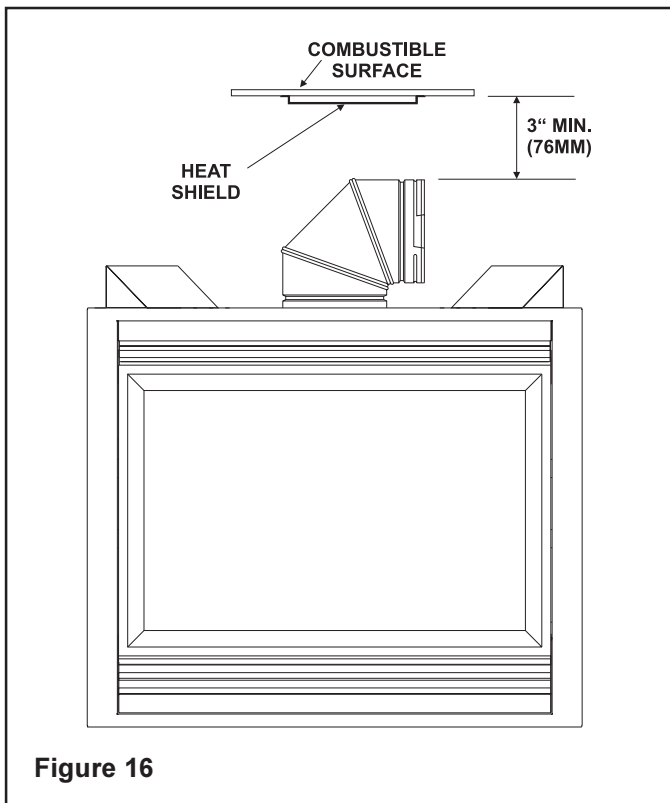

Figure 16
1. Determine if the heat shield is required. Do so by measuring the vertical distance between the top horizontal surface of the elbow to any combustible surface above. If the distance is more than 4 inches, the heat shield is **NOT** required. If it is 4 inches or less, the heat shield **IS REQUIRED**. Install per the following steps. See Figure 16.